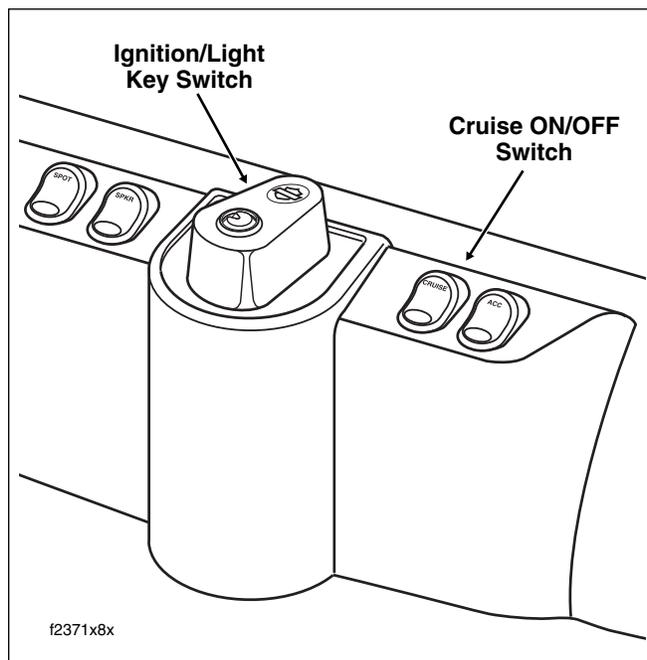
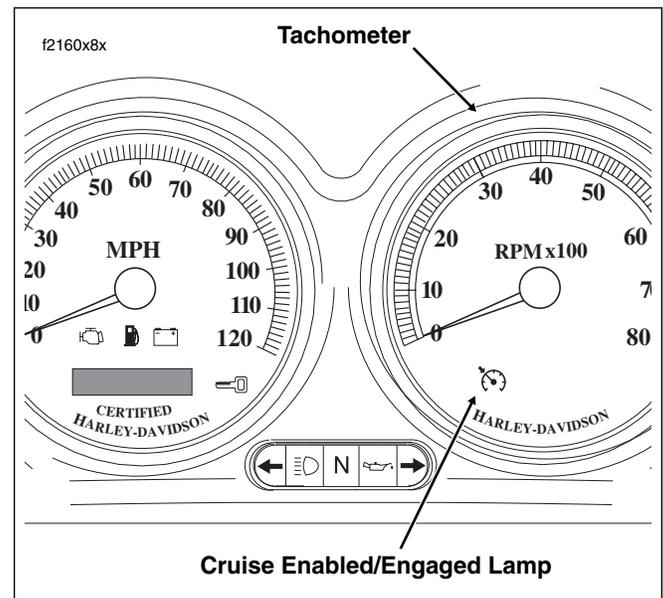

Figure 7-1. Fairing Cap (FLHTCU)
Figure 7-3. Instrument Panel (FLHTCU)
1. While riding in fourth or fifth gear, turn the Cruise ON/OFF Switch to the ON position. See Figure 7-1. The switch is located on the fairing cap of FLHTCU models, the instrument nacelle of FLTR models, and the left handlebar lower switch housing on FLHRC models. The Cruise Enabled/Engaged lamp in the tachometer face (speedometer on FLHRC models) turns red to indicate that the system is activated. See Figure 7-3. A red lamp in the switch on both FLHTCU and FLTR models also indicates this condition to the rider.
The cruise control module “reads” the vehicle speed sensor (VSS) output to establish the desired vehicle speed. The module then sends a signal to the stepper motor which drives the ribbon reel to take up the slack in the cruise cable. The Cruise Enabled/Engaged lamp in the tachometer face (speedometer on FLHRC models) turns from red to green to indicate that the cruising speed is locked in. See Figure 7-3.
In the diagnostic mode, the Cruise Enabled/Engaged lamp is employed as a test indicator. The lamp is in the tachometer face (speedometer on FLHRC models). See Figure 7-3.